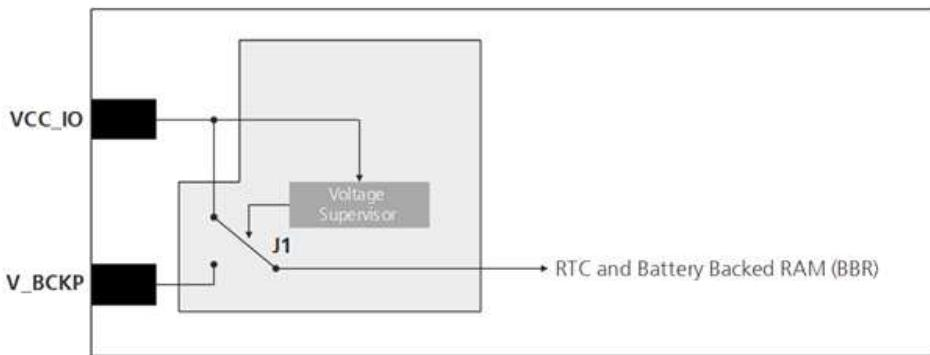

Figure 1: Backup battery and voltage
- ☞ As long a supply is connected to **VCC\_IO** of SAM-M8Q antenna module, the backup battery is disconnected from the RTC and the BBR to avoid unnecessary battery drain (see Figure 1). In this case, **VCC\_IO** supplies power to the RTC and BBR. **V\_BCKP** supplies the RTC and BBR in case **VCC\_IO** voltage goes below 1.4V.